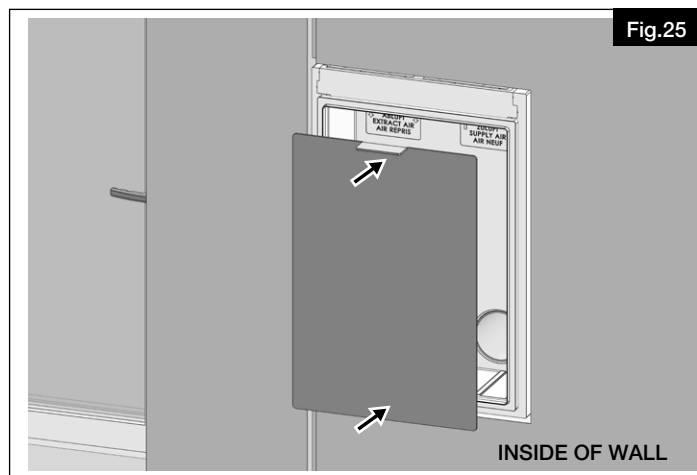
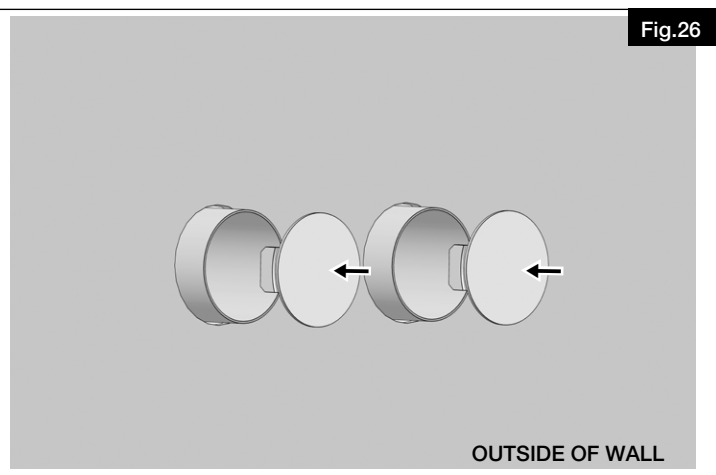

Fig.25
Fig.26
15. Insert the protective covers into the wall installation sleeves on the exterior (see Fig.26) and into the wall installation element on the interior (see Fig.25).
3. Reinsert the protective covers into the wall installation sleeves on the exterior side (see Fig.26).